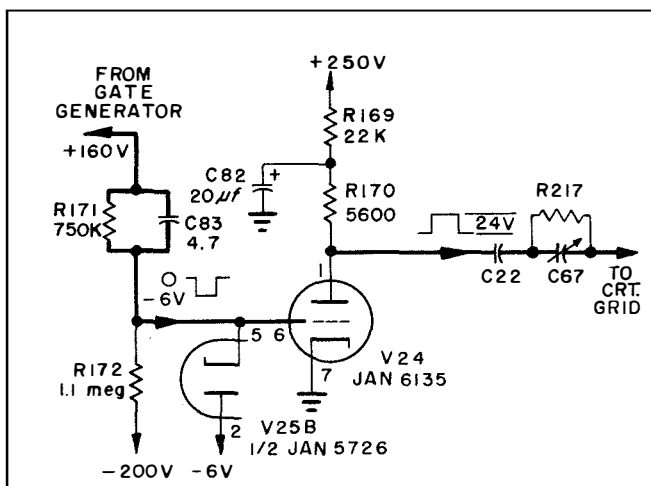

Figure 2—16. Intensity Gate Amplifier—Simplified Schematic
The sweep delay generator is shown in figure 2—14. It consists of V27, a JAN 12AT7WA duo-triode, and V25A, 1/2 JAN 5726 duo-diode. V25A is always in the circuit to clamp the negative excursion of the sweep voltage to ground potential either in direct or delayed presentation to the horizontal channel. The delay generator, V27, is operated with one section being grid driven and the other section cathode driven. In sweep delay operation, the signal from the linear sweep generator is applied to the grid of V27B. The cathode resistor R184 is returned to -200V, and the cathode DC voltage changes with this grid, maintaining the same bias and therefore the same gain for V27A. However, as the common cathode DC voltage is raised the operating point of V27B is greatly affected because its grid is returned to ground through R181. This results in a selective action at the cathode allowing a portion of the sawtooth voltage at V27B to be coupled to, and amplified by V27A. The selected portion is amplified and then coupled from the plate of V27A to the horizontal amplifier. The plate load for V27A consists of resistors R218 and R183. The combination of resistors R218 and R183 paralleled by capacitor C92, is an equalizing network to maintain equal outputs for both the high and low frequency sweeps. The combination of coil L17 critically damped by resistor R182 provides additional high frequency peaking.
Figure 2—15 shows the circuit of the synchronization channel which consists of V14, a JAN 12AT7WA duo-triode, V15, a JAN 5726 duo-diode and V16B, 1/2 12AT7WA duo-triode. It presents a synchronizing or triggering signal of the proper amplitude and polarity (negative) needed for rapid triggering of the gate generator section of the linear time base channel. A
Figure 2—16 shows the intensity gate amplifier. It consists of V24, a JAN 6135 triode. An attenuated portion of the negative gate from the enabling gate generator is DC coupled to the grid of V24. The duration of this gate is, therefore, the same as the duration of the SWEEP and varies with SWEEP RANGE and FINE SWEEP settings. This negative gate, which is essentially a negative square wave, is further squared off by clipping at the zero level by diode action from cathode to grid of V24 and is clamped at -6V by diode V25B. The square wave is then amplified and inverted and the resultant positive square wave is coupled to the grid of the cathode ray tube via capacitor C22. R170 is the plate load resistor while R169 in conjunction with C82 provides low frequency compensation.
Figure 2—17 shows the circuits of the marker generator and amplifier. The tubes used are V18 and V21, each a JAN 12AT7WA duo-triode, V20, a JAN 6135 triode and V22, a JAN 6AH6 pentode. V21 is a cathode coupled multivibrator whose time constants Ca and Ra are selected by MARKER μ S switch S13. The operating conditions for each half of the tube are selected
a. Figure 2—18 shows the trigger generator circuit, which consists of V23 JAN 12AU7, a duo-triode with both sections connected in parallel, pulse transformer T2, and associated circuits. Its function is to provide pulses of different repetition rates for triggering the